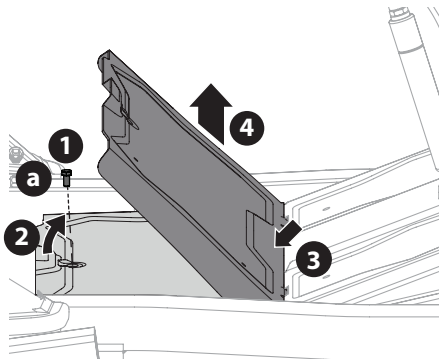

Fig. 28
1. Using the multi-tool or a 1/2 inch socket, remove the hex screw (a) that secures the floor panel in place (Fig. 28).
2. Carefully lift the rear of the floor panel (Fig. 28).
3. Slide the floor panel rearward to free the front of the floor panel (Fig. 28).
4. Lift it off the tractor (Fig. 28).